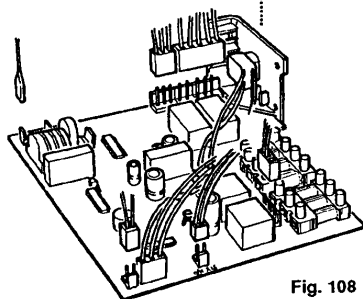

Fig. 108
7. Disconnect the plugs from the sockets on the circuit board (Fig. 108).